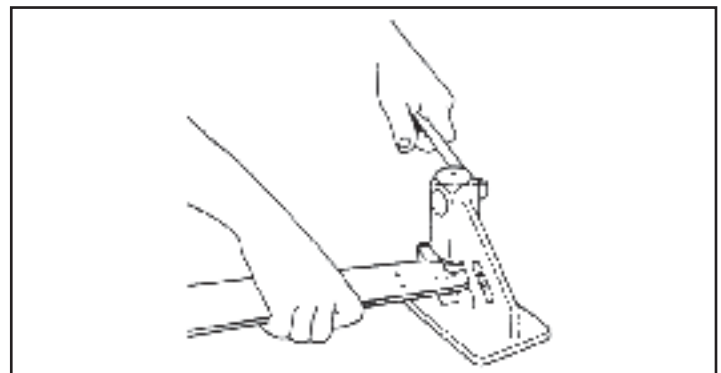

Figure 24. Punching Out Nose Sprocket Rivets
1. Using the bench mounted chain breaker (see accessories), line up the 1/4 inch hole in the side of the chain breaker anvil with the chain breaker punch. Punch out the six nose sprocket rivets. See Figure 24.